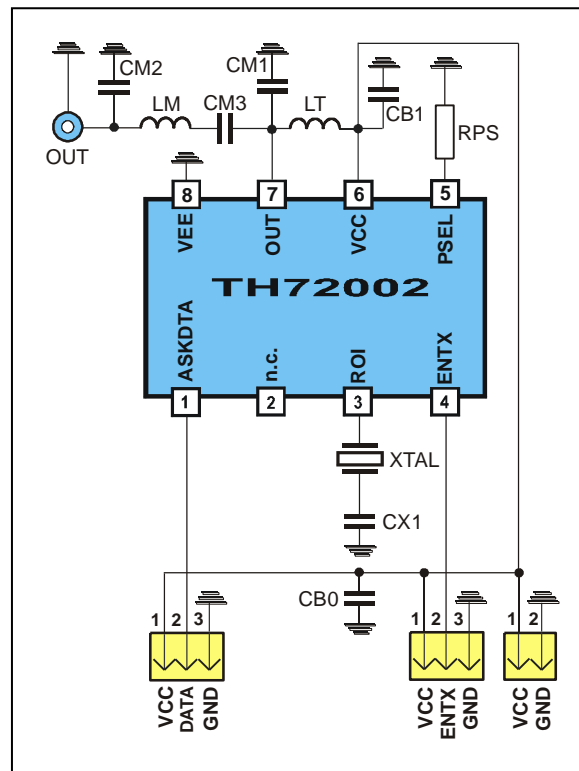

Fig. 17: Test circuit for ASK with 50  $\Omega$  matching network
- Data according to test circuit in Fig. 17